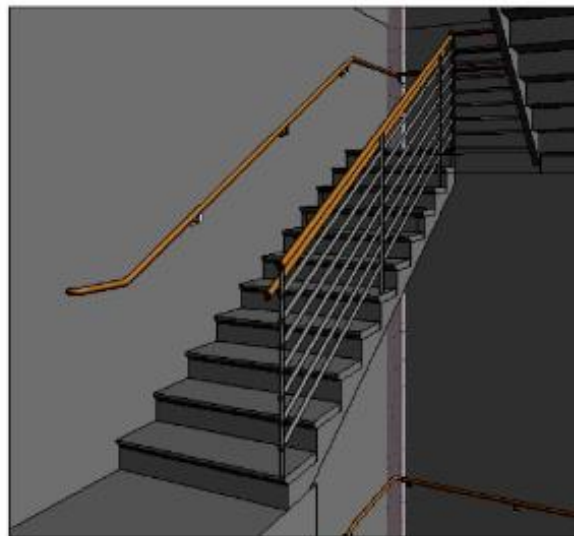

Figure 12-39
10. Create a camera view to display the stairs and railings of the stair going up as shown in Figure 12-39. Select the railing that is partially displayed and hide it. Shade the view to display the components of the railings more clearly.